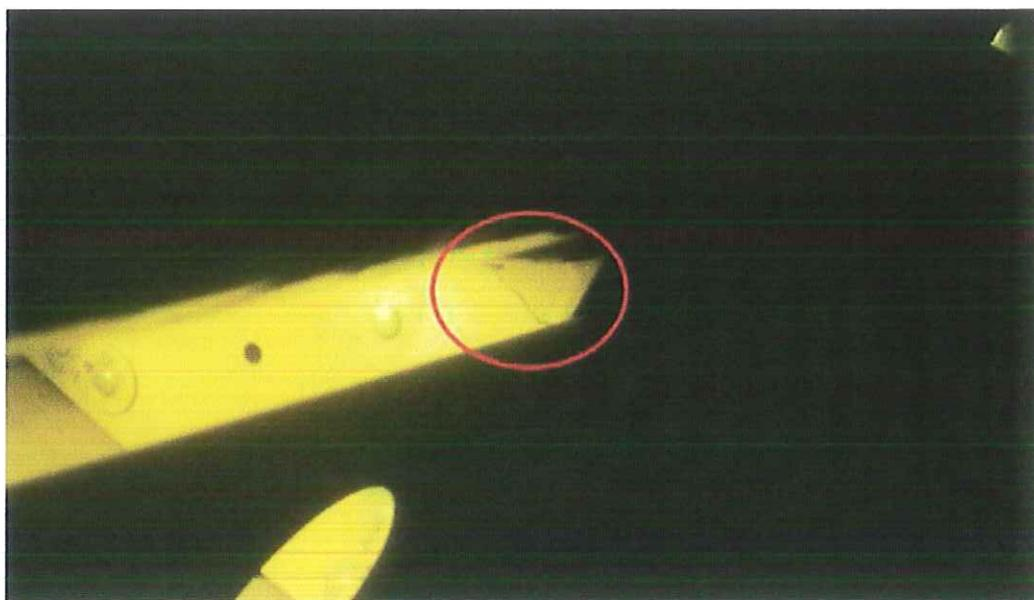

Figure 2 – Crack Location
3. Fabricate an inner doubler from .032" thick, 301 1/4 hard stainless steel sheet approximately as shown in Figure 5. Corner radii of the doublers shall be 0.190" minimum. Temporarily clamp the doublers into position and check for fit. If satisfied with the fit, back – drill the holes for the legacy rivets (shown in Figure 2) into the doublers. Strive to maintain 2D edge distance for the fasteners in the doublers, but the edge distance can be as low as 1.5D if necessary. Deburr the fastener holes and the edges of the doublers. Vacuum the area to remove any loose particles.